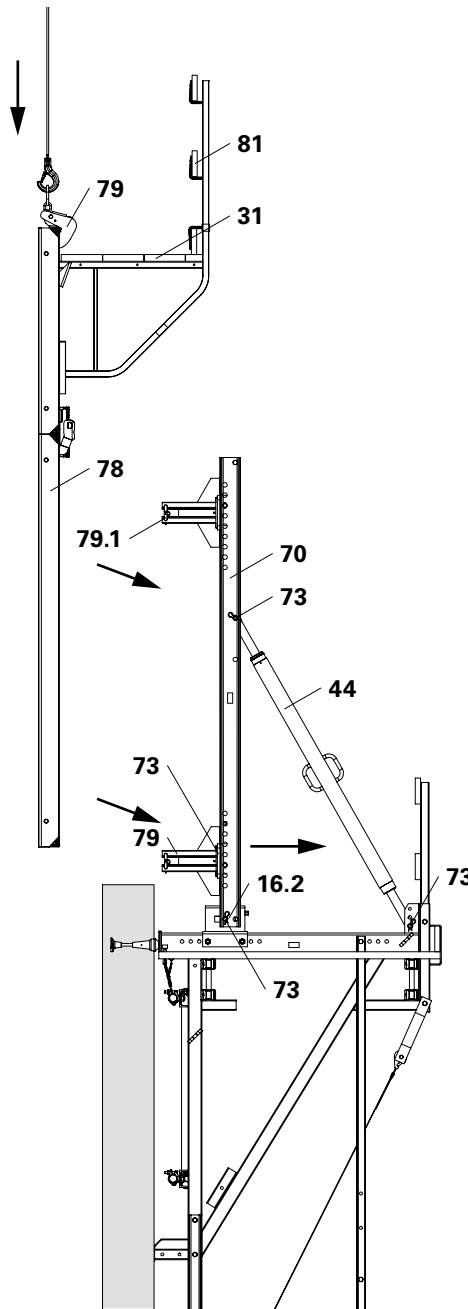

Fig. B2.19
2. Fix Connectors TRIO-CB (79) to the Strongback CB (70) using Bolts $\text{\O} 25 \times 180$ (73) and Cotter Pins 4/1.
3. Fix Strongback CB to the Adjusting Unit CB by means of Bolts $\text{\O} 25 \times 180$ (73) and Cotter Pins 4/1. $\text{\O} 25 \times 180$ (73) and Cotter Pins 4/1.
4. Fix Adjustable Brace CB 164-224 (44) to the bracket and Strongback CB using Bolts $\text{\O} 25 \times 180$ (73) and Cotter Pins 4/1.
5. Brace Strongbacks laterally. (Fig. B2.19)